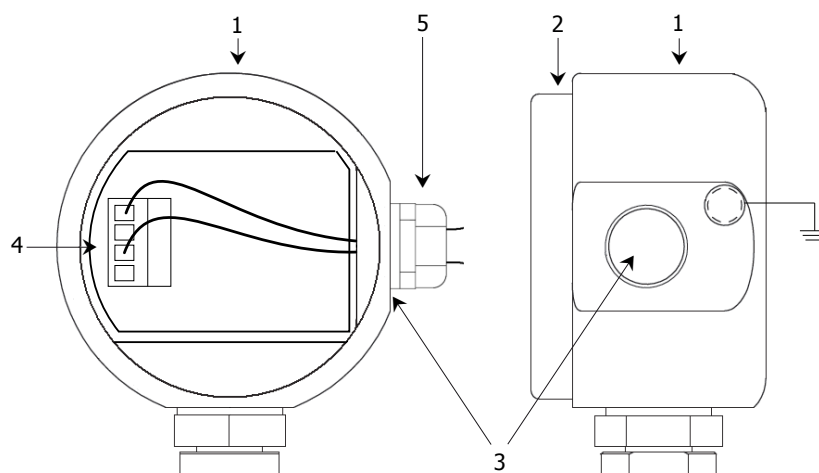

Figure 17 *Dew-point Transmitter Housing*
- b. Cable connection to the dew-point transmitter is made via the terminal block (4) (see *Figure 17*). Remove the terminal housing lid (2) to access.